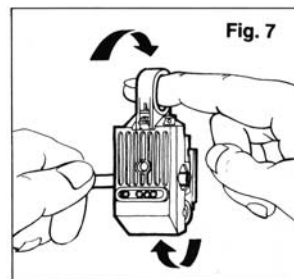

Fig. 7
F. Rotate the tool around coax about 5 times, (fig. 7). Push slide forward to next position in sequence. Rotate tool again. Then push slide forward to final position and rotate the tool final 5 times.